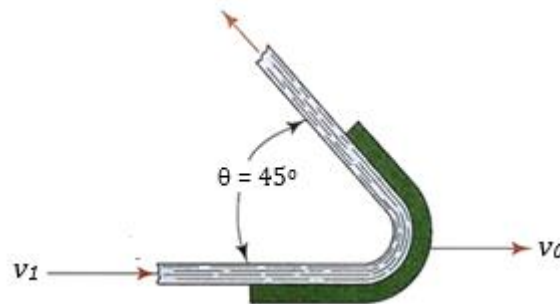

Figure 5
15. Figure 5 shows a jet of water with a velocity v_1 striking a vane that is moving with a velocity v_0 . Determine the magnitude and direction of the resultant force exerted by the vane on the water if $v_1 = 20$ m/s and $v_0 = 8$ m/s. The jet is 50 mm in diameter.